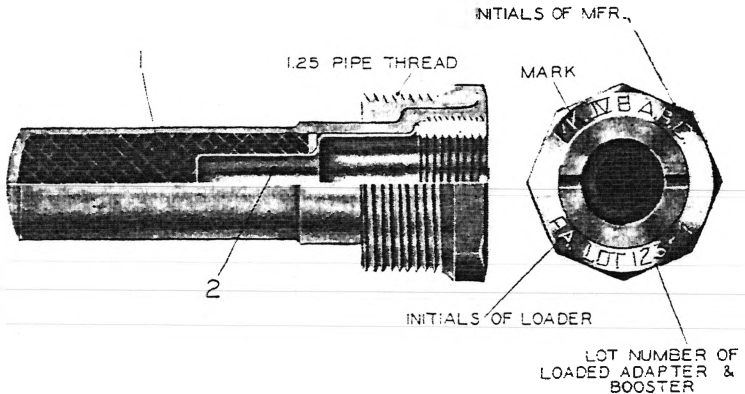

Fig. 10.—Adapter and booster, Mk. IV-B
2. Adapter and booster may or may not be painted. (For stamping on adapter and booster, see fig. 10.)
17. Adapter and booster may or may not be painted (for stamping on adapter and booster, see fig. 10).
15. **Adapter and booster, Mk. IV-B.**—The adapter and booster, Mk. IV-B, is used in the 75-mm. chemical shell, Mk. II. Figure 10 shows this adapter and booster, and gives the names of the principal parts, together with the stamping identifications. Its function is to break up the shell so that the contents can escape. This component differs from that which is used in the high-explosive shell in that the adapter and booster are made in one piece and the threads are tapered (pipe threads) instead of being straight, this type of thread and the one-piece construction being necessary to make a gas-tight assembly. The joint made by the tapered threads is the only place where the gas can escape from the shell due to defective assembly. The booster charge consists of approximately  $1\frac{1}{4}$  ounces of tetryl. Some boosters are loaded with half tetryl and half TNT, the tetryl being placed around the fuze socket.